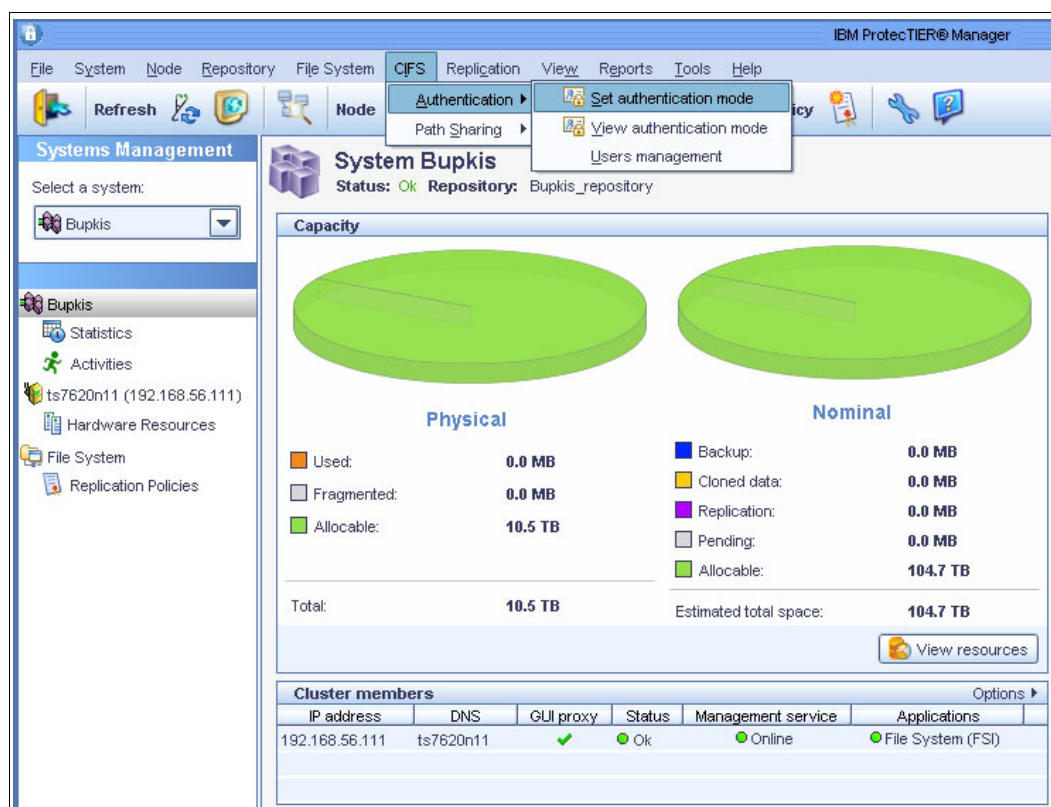

Figure 4-11 Authentication mode
1. From the Systems Management menu, for system Bupkis, click **CIFS** → **Authentication** → **Set the authentication mode**, as shown in Figure 4-11.